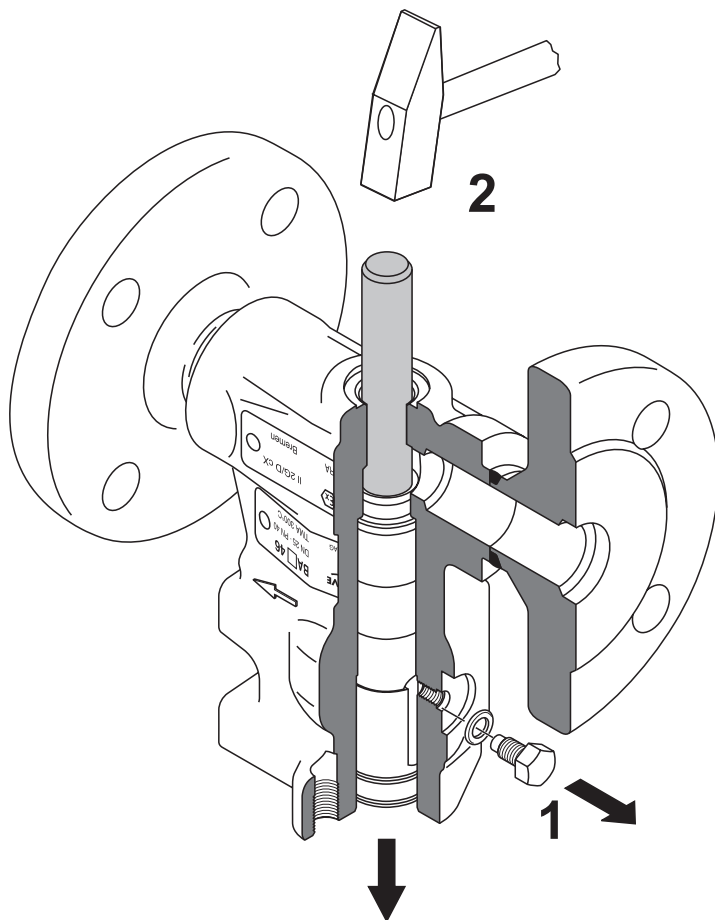

Fig. 14
7. Use a brass drift punch $d = 14.8 \text{ mm}$ to force out the internals **6** to **10**. **Fig. 14**
9. Use a brass drift punch $d = 14.8 \text{ mm}$ to force out the internals **6** to **10**. **Fig. 14**